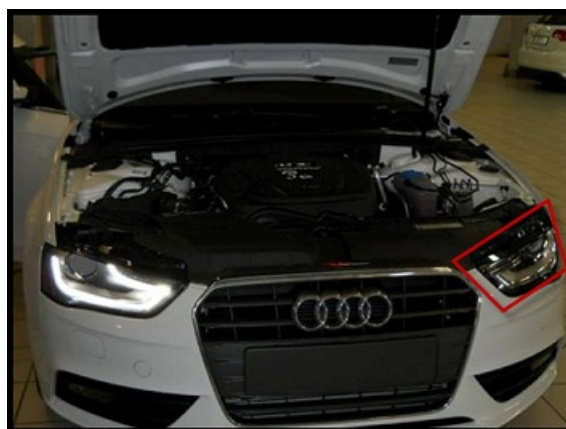

Figure 1. Driver's side LED DRL inoperative.
- The LED daytime running light in a single headlight does not work (Figure 1). The issue must be repeatable at the workshop.